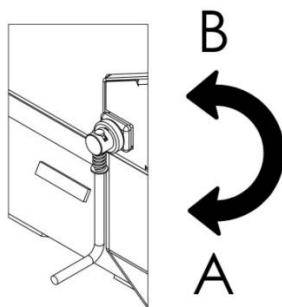

Figure 3. Parking brake.
5. Release the parking brake, see figure 3.